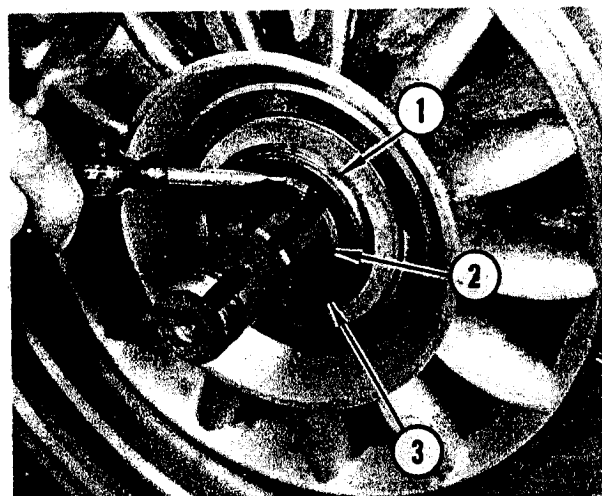

FIGURE 22. REACTOR REMOVAL
Refer to Figure 22. Remove snap ring (1) from groove in reactor sleeve. Remove snap ring (2) from groove in output shaft. The reactor blades have a thick side and a thin side. Note that thick sides of blades are out or toward engine. During reassem-